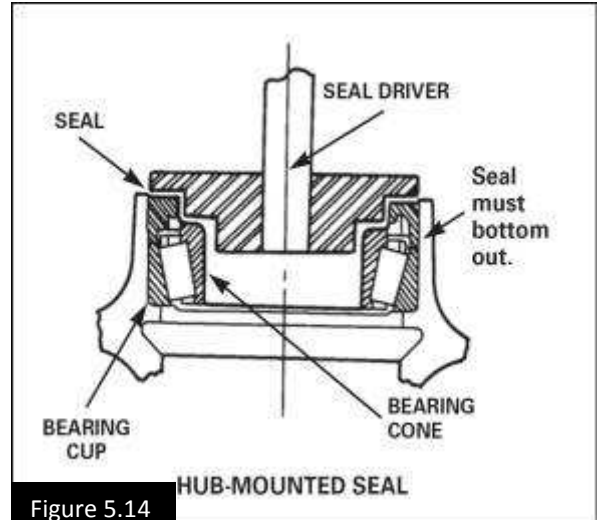

Figure 5.14
4. Align the tool with the hub seal bore and drive the seal until it bottoms out in the hub seal bore. Rotate the tool and apply several light blows to ensure the seal is correctly seated. Check the bearing to verify it rotates freely. Figure 5.14.